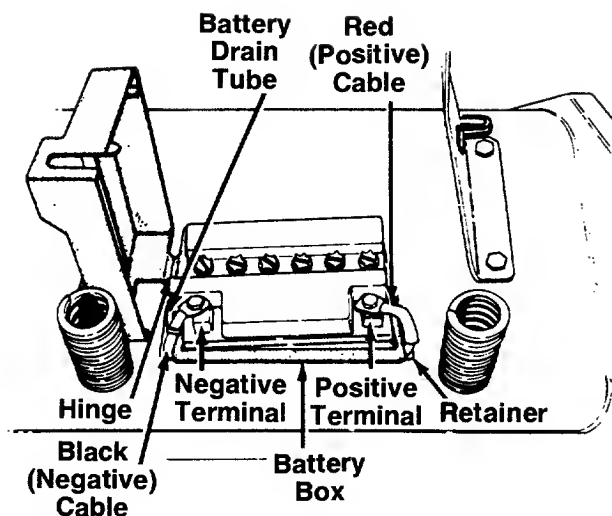

FIGURE 4.
3. Place the battery inside the battery box so that the positive terminal is toward the right side of the unit. See figure 4. Route the battery drain tube down beside the battery box.